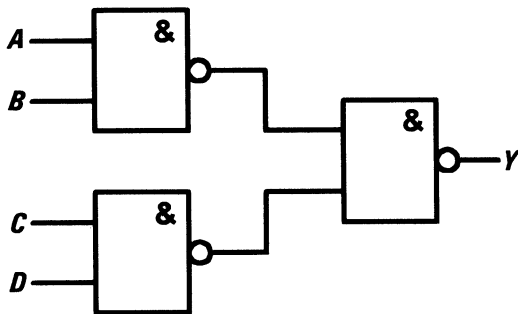

Figure A2.22
45. Draw the truth table for the logic gate arrangement shown in Fig. A2.22. [Page 165]